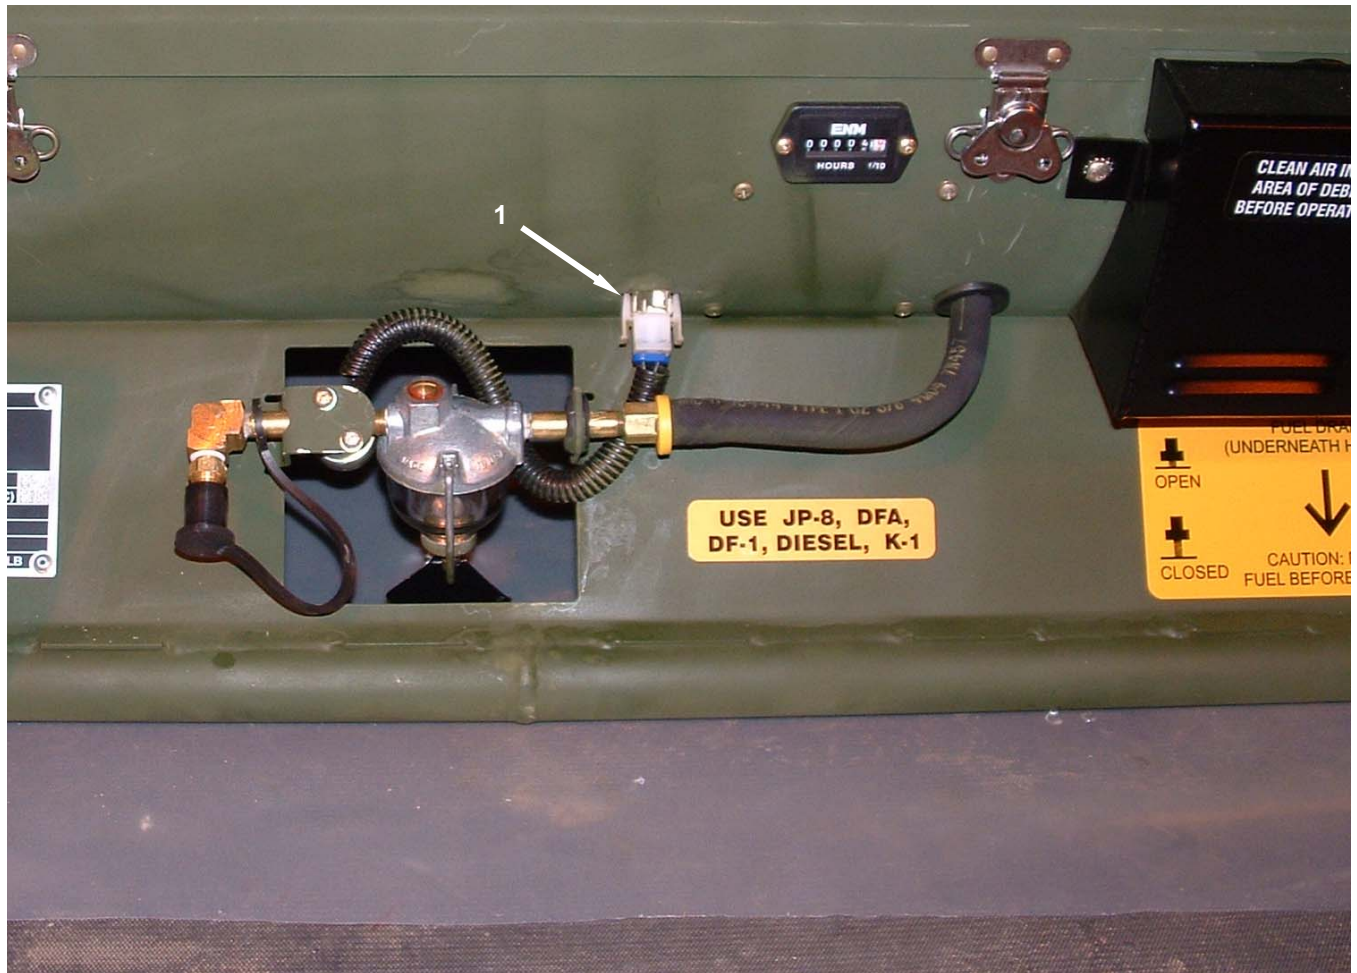

Figure 2. Test the Fuel Solenoid.
1. Disconnect the fuel solenoid electrical connector (**Figure 2, Item 1**).
2. Use an ohmmeter to test for resistance at the connector (**Figure 2, Item 1**). The correct value for the fuel solenoid is approximately 30 ohms resistance. Replace an open or shorted fuel solenoid.
3. Reconnect the fuel solenoid electrical connector (**Figure 2, Item 1**).